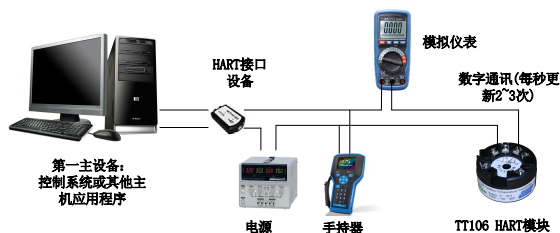

Figure 5.1 4~20mA Compatible Mode
- 4~20mA compatible mode, shown as Figure 5.1.